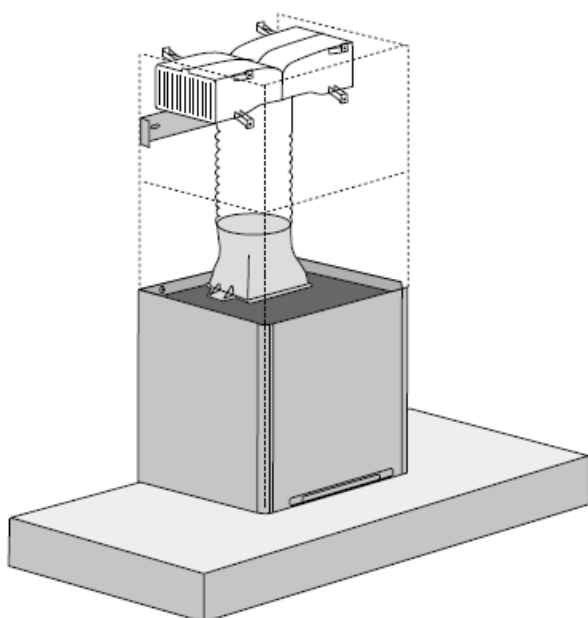

Fig. 9
6. **6a. Recirculating mode (Fig. 9).** Using the centre line, secure the recirculating T-piece to the wall with suitable